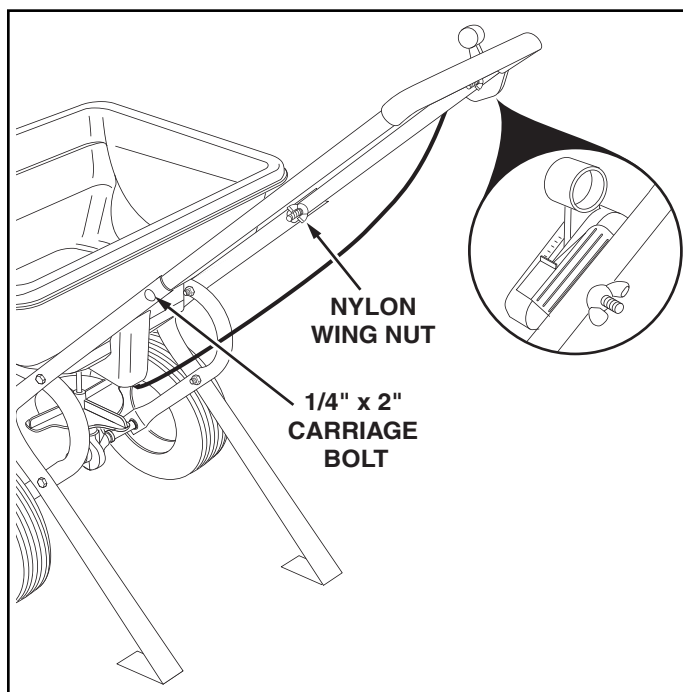

FIGURE 1
1. Assemble the handle tube to the leg tubes using the two 1/4" x 2" carriage bolts and nylon wing nuts. See figure 1.
2. Assemble the Control Cable to the handle tube using a 1/4" x 2" carriage bolt and nylon wing nut. See figure 1.